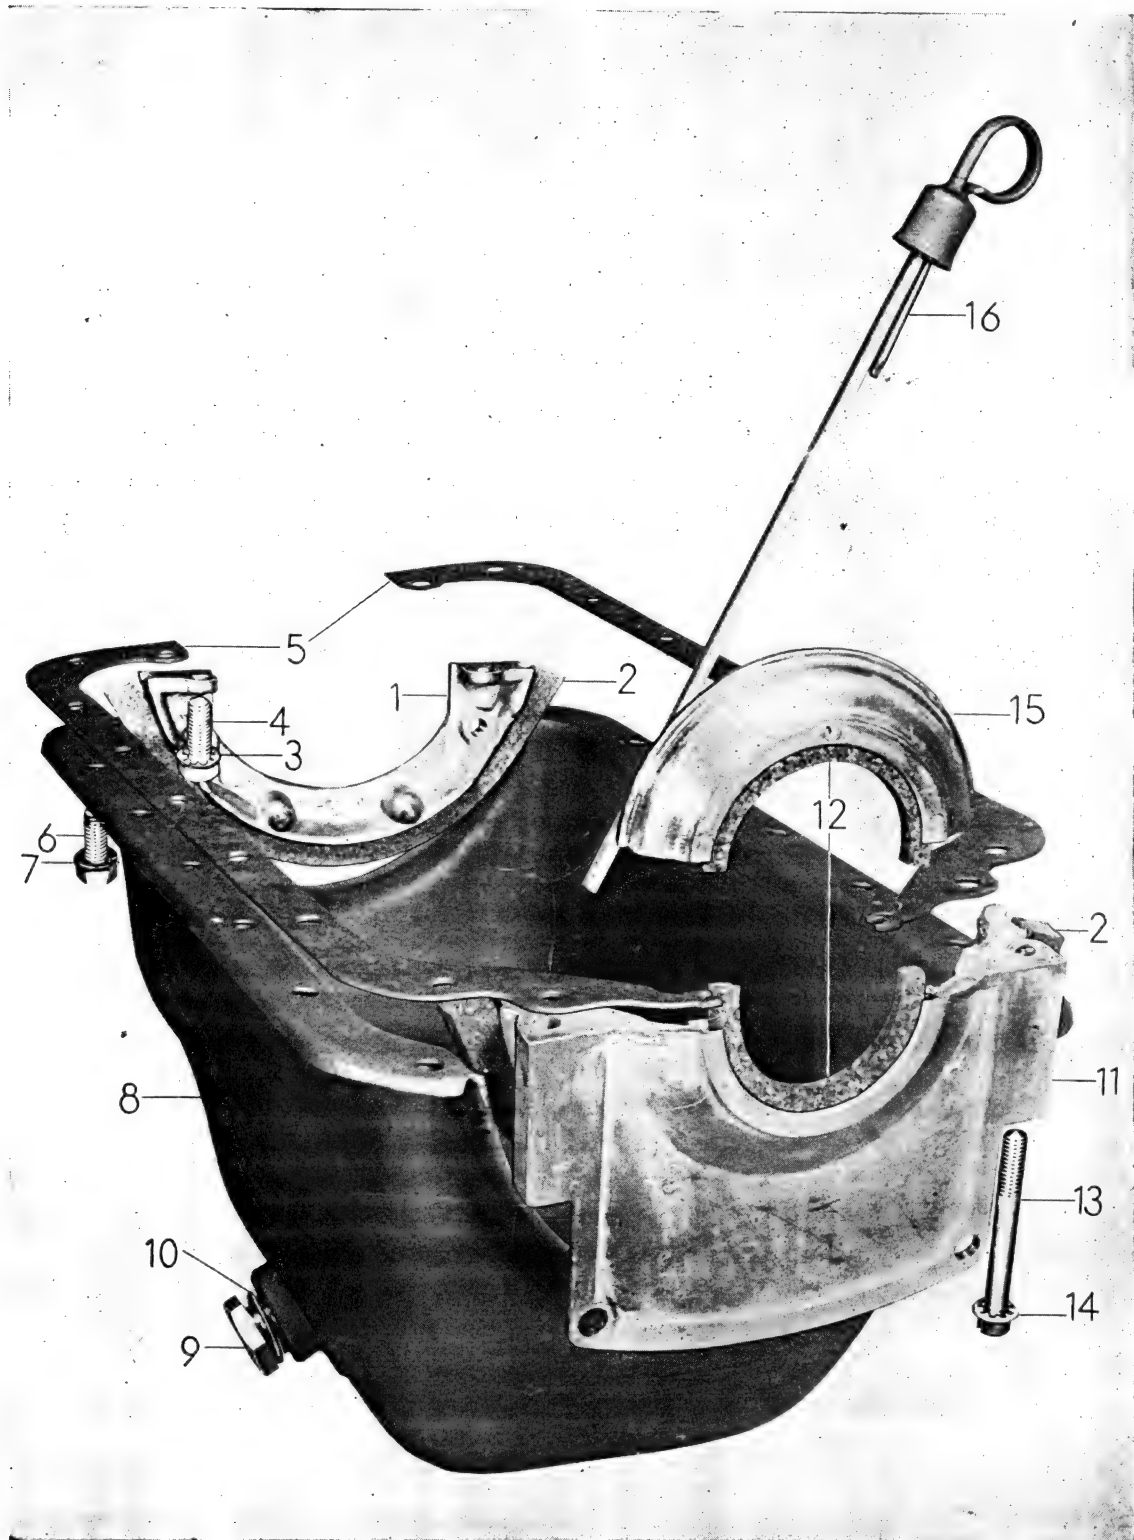

Figure 6 — Oil Pan, Filler Blocks, Gaskets and Oil Bayonet Gauge
**OIL PAN, FILLER BLOCKS, GASKETS AND OIL BAYONET GAUGE (Fig. 6)**